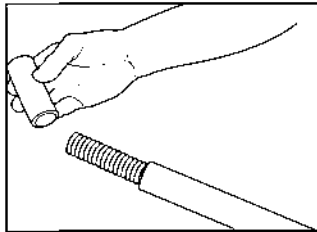

Figure: 4-51
5. Using a twisting motion, remove the black sleeve from the pipe. Figure: 4-51. It may be necessary to cut sleeve longitudinally and peel off for larger sizes. **Inspect stainless pipe for scoring from the tubing cutter.**